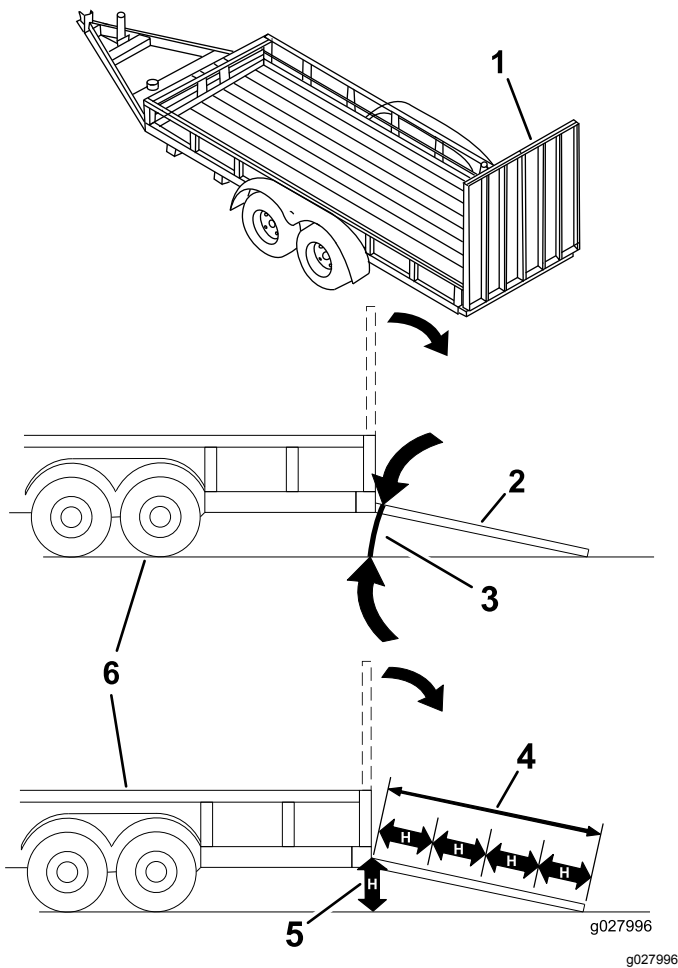

Figure 21
Loading a machine onto a trailer or truck increases the possibility of tip-over and could cause serious injury or death (Figure 21).
3. Lower the ramp, ensuring that the angle between the ramp and the ground does not exceed 15 degrees (Figure 21).
1. Lower the ramp, ensuring that the angle between the ramp and the ground does not exceed 15 degrees (Figure 21).